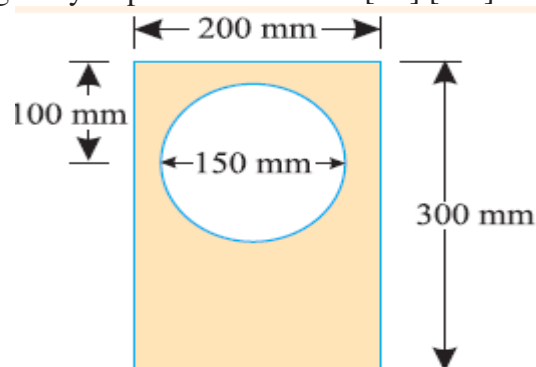

Fig.24
8. Find the moment of inertia of a hollow section shown in Fig.24 about an axis passing through its centre of gravity or parallel X-X axis. [L1] [6M]